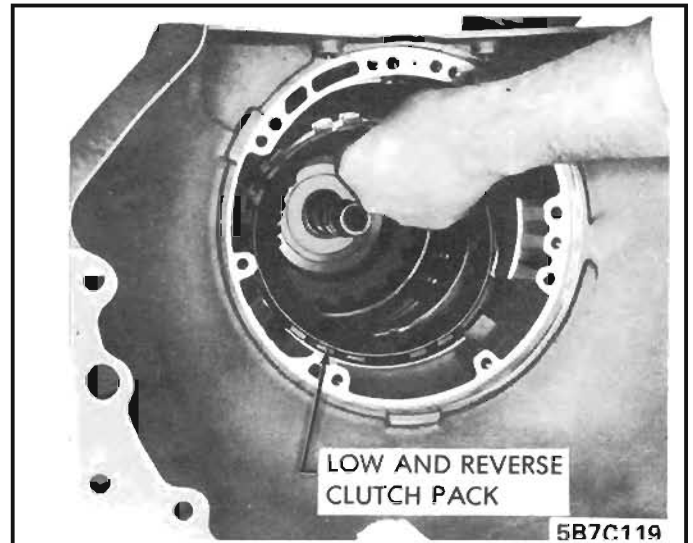

Figure 37 Lo and Reverse Clutch Removal
1. Remove the low and reverse clutch composition plates and the steel separator plates. *See Figure 37.*